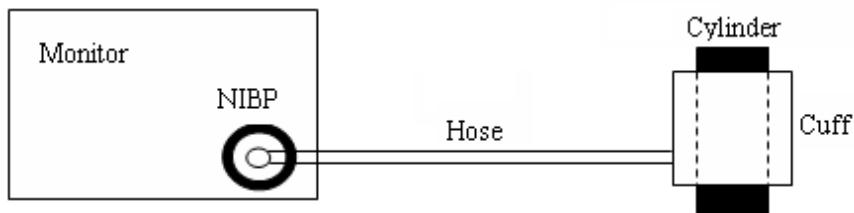

Figure 6.32 NIBP Leakage Test Diagram
2. Wrap the cuff onto a column of proper size, as referred to Figure 6.32